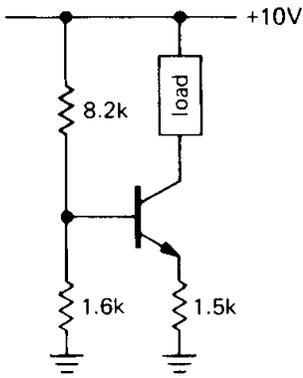

Figure 2.79
(2) Consider the current source in Figure 2.79. (a) What is  $I_{load}$ ? What is the output compliance? Assume  $V_{BE}$  is 0.6 volt. (b) If  $h_{FE}$  varies from 50 to 100 for collector voltages within the output compliance range, how much will the output current vary? (There are two effects here.) (c) If  $V_{BE}$  varies according to  $\Delta V_{BE} = -0.0001 \Delta V_{CE}$  (Early effect), how much will the load current vary over the compliance range? (d) What is the temperature coefficient of output current assuming that  $h_{FE}$  does not vary with temperature? What is the temperature coefficient of output current assuming that  $h_{FE}$  increases from its nominal value of 100 by  $0.4\%/^{\circ}C$ ?
(3) Design a common-emitter npn amplifier with voltage gain of 15,  $V_{CC}$  of +15 volts, and  $I_C$  of 0.5mA. Bias the collector at  $0.5V_{CC}$ , and put the low-frequency 3dB point at 100Hz.
(4) Bootstrap the circuit in the preceding problem in order to raise the input impedance. Choose the rolloff of the bootstrap appropriately.
(5) Design a dc-coupled differential amplifier with voltage gain of 50 (to a single-ended output) for input signals near ground, supply voltages of  $\pm 15$  volts, and quiescent currents of 0.1mA in each transistor. Use a current source in the emitter and an emitter follower output stage.
(6) In this problem you will ultimately design an amplifier whose gain is controlled by an externally applied voltage (in Chapter 3 you will see how to do the same thing with FETs). (a) Begin by designing a long-tailed pair differential amplifier with emitter current source and no emitter resistors (undegenerated). Use  $\pm 15$  volt supplies. Set  $I_C$  (each transistor) at 1mA, and use  $R_C = 1.0k$ . Calculate the voltage gain from a single-ended input (other input grounded) to a single-ended output. (b) Now modify the circuit so that an externally applied voltage controls the emitter current source. Give an approximate